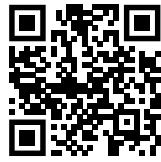

Fig. 145
- ▶ Hapni **Liebherr SmartMonitoring Dashboard**. (shihni Fig. 145)